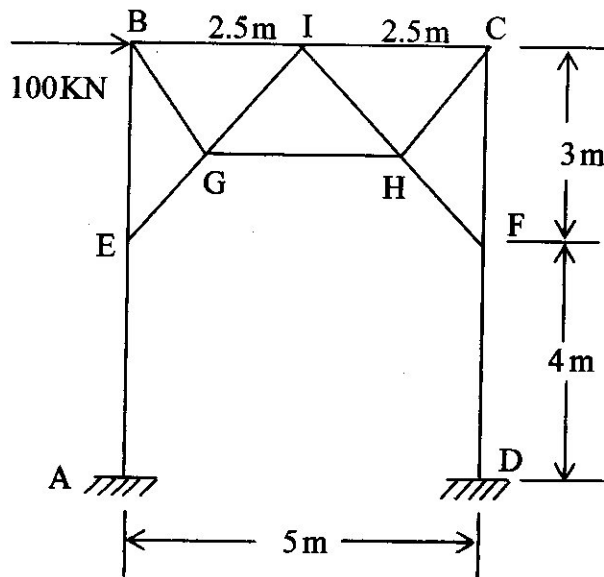

Fig1
Q.3 An 'A' type portal bracing has been used in a through type truss girder bridge. It is subjected to a lateral horizontal force of 100 kN as shown in Fig 1. Analyse the frame completely. Also find the portal effect in the bottom chords of the truss girders, if the end posts are inclined at 50° to the horizontal. [20]